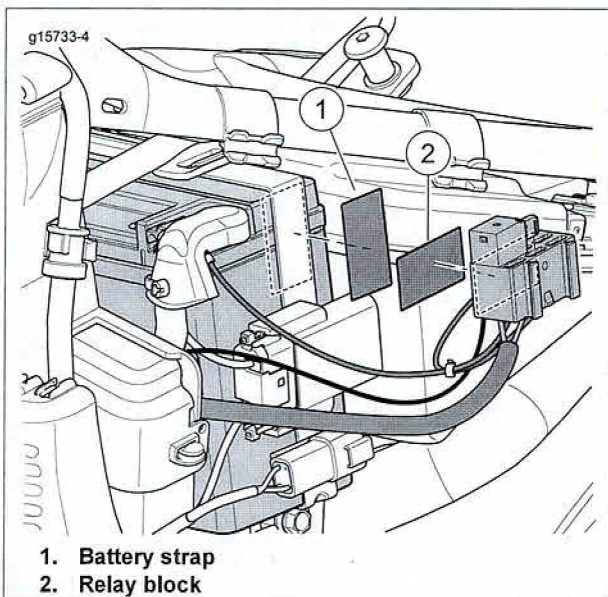

Figure 2. Dual Lock™ Mount Locations
1. See Figure 2. Install the relay block with fuse.
- c. Remove plastic film backing. Press to battery strap (1).
- d. Remove plastic film backing. Press to back of relay connector block (2).